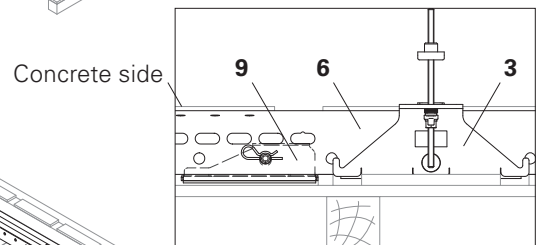

Fig. B1.09a
5. Mount Support Plates VD (9) in the fourth hole of the Steel Waler SRU U120 (6) using 1x Fitting Pin  $\varnothing$  21 x 120 (48) in each case, and secure with Cotter Pins 4/1 (47). (Fig. B1.09a)